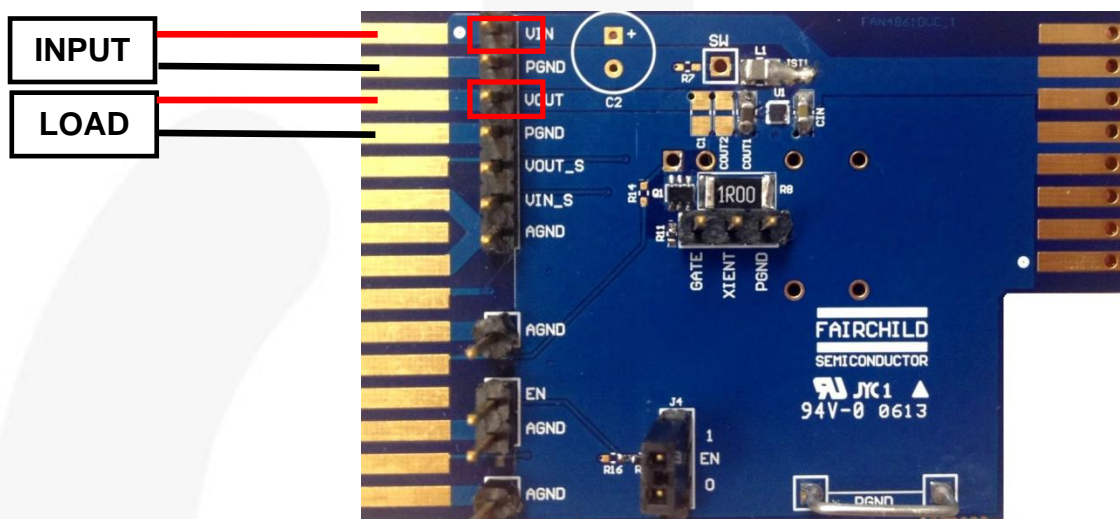

Figure 1. Evaluation Board Connection Diagram Evaluation Board Specifications
1. Connect VIN to input power supply (2.35V -5.50 V) as shown in Figure 1.
VIN_S, VOUT_S, and EN signals can be monitored with an oscilloscope probe at headers, as shown in Figure 1. Measure relative to AGND.